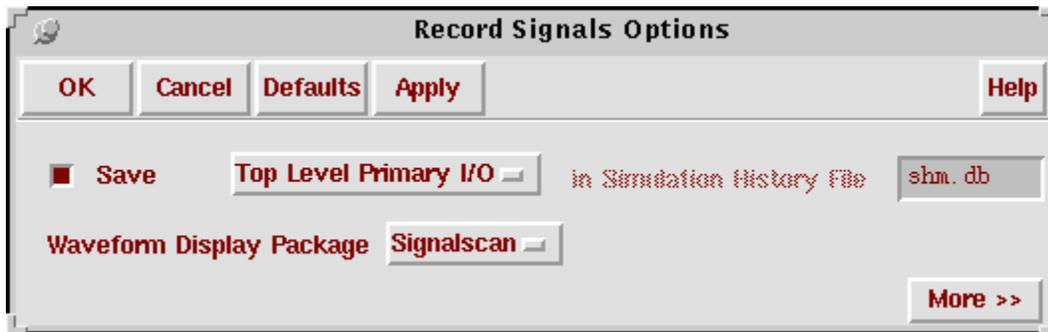
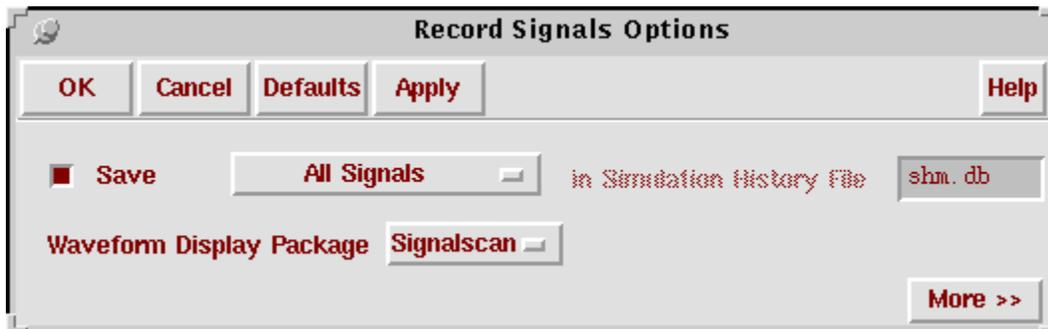

Fig 11: Record Signals Options
Fig 12: Record Signals Options
- a. In the “Virtuoso Schematic Composer Analysis Environment for Verilog-XL Integration” window click **Setup** → **Record Signals ...**. The “Record Signals Options” form opens up as shown in Fig 11.
- b. In Fig 11 change the **Top Level Primary I/O** tab to **All Signals** as shown in Fig 12.
- c. In Fig 12 click **OK**.